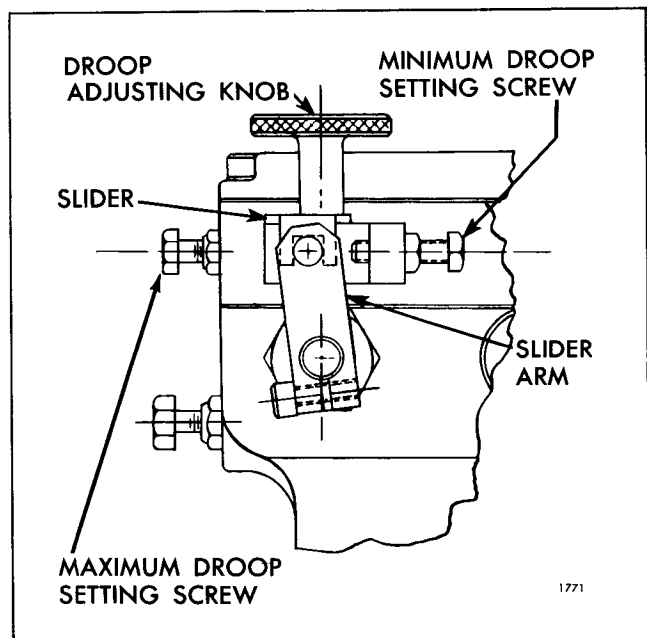

Fig. 7 - External Droop Control on PSG Isochronous Governor
5. Loosen droop adjusting knob, Fig. 7, and move slider all the way in toward the engine, and then tighten knob.